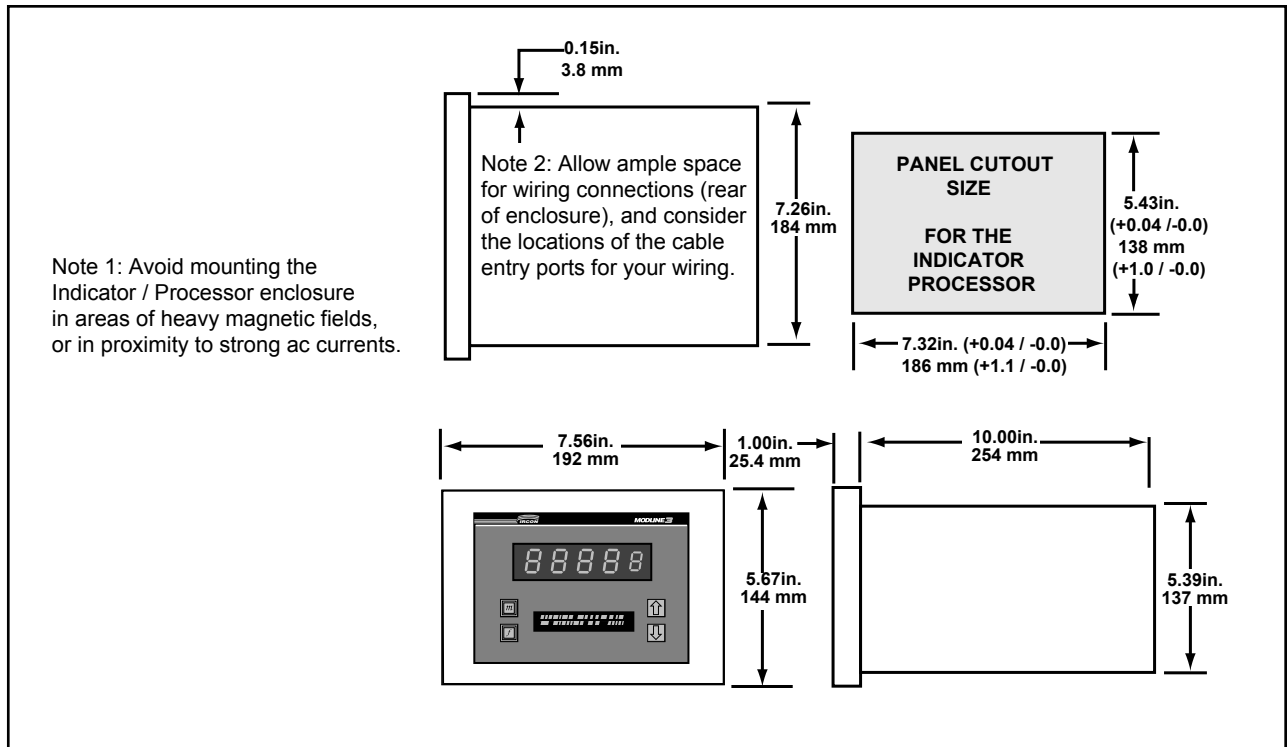

FIG. 3.2 - DIMENSIONS OF MODLINE 3 INDICATOR / PROCESSOR ENCLOSURE
The Indicator / Processor is intended to be panel mounted by means of the mounting hardware supplied. Select a location protected from heavy plant traffic and physical abuse. Avoid mounting the enclosure in areas of heavy magnetic fields, or in proximity to strong ac currents. Dimensions of the Indicator / Processor enclosure and the panel cutout are given in Fig. 3.2.
1. Prepare a cutout in a panel (8 to 14 gauge 1.6 to 3.3mm thick). Use the Panel Cutout Size dimensions shown in Fig. 3.2.
3. Follow the Fig. 3.2 precaution procedure notes about mounting space and magnetic field proximity.